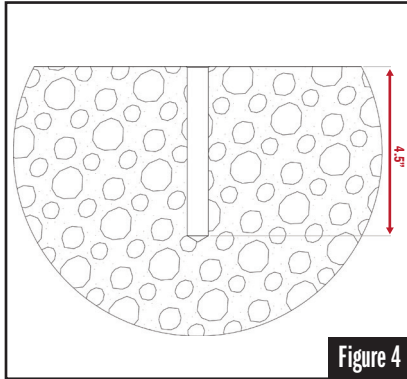

Figure 4
- STEP 4:** - Using a drill and the marks you made in the previous step, drill at least 4.5" deep into the concrete. See Figure 4.